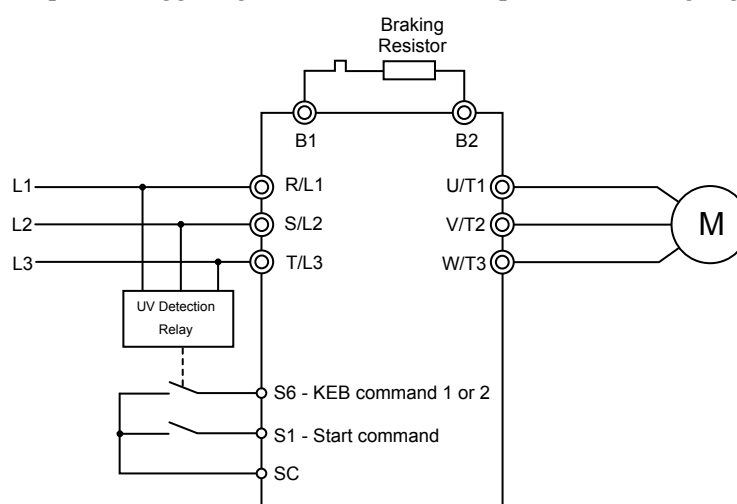

Figure 5.77 KEB Function Wiring Example
*Figure 5.77* shows a wiring example for triggering the KEB function at power loss using digital input S6.